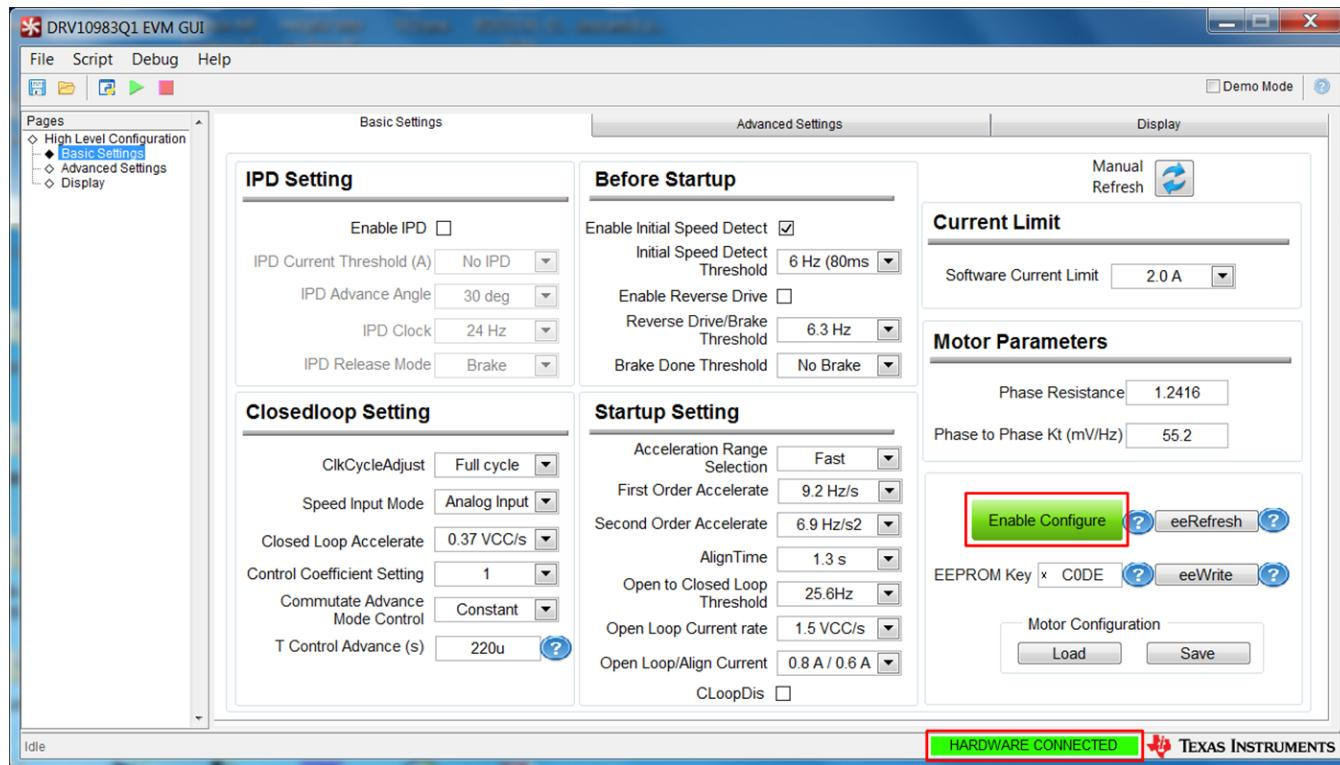

Figure 11. Enable Configure
- If the *Retry* button was selected, the GUI displays the screen as shown in Figure 11 directly after step 10.
- Step 11. The status bar displays *HARDWARE CONNECTED* and the bar turns green, indicating that the GUI is communicating with the device. Click the *Enable Configure* to change this button from the red to green (see Figure 11).